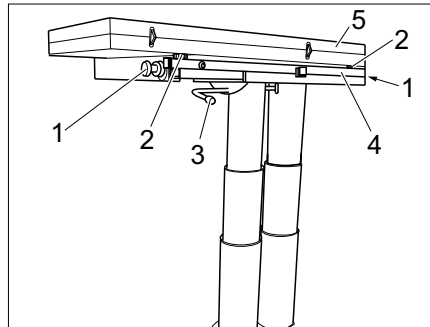

Fig. 117 Increasing the table size
- Loosen knurled screws (Fig. 117,1) on both sides.
- Swivel the catch lever (Fig. 117,3) to the left. The lift-off table is unlocked.
- Pull out the table base (Fig. 117,4).
- Fold out the table half (Fig. 117,5).
- Use the two adjusting screws (Fig. 117,2) to adjust the table-top to the desired height.
- Swivel the catch lever (Fig. 117,3) to the right. The lift-off table is locked.
- Release the locking lever (Fig. 117,3).
- Fold in the table half (Fig. 117,5).
- Screw the two adjusting screws (Fig. 117,2) in.
- Push in the table base (Fig. 117,4).
- Tighten knurled screws (Fig. 117,1) on both sides.
- Swivel the catch lever (Fig. 117,3) to the left. The lock is open.
- Screw the two adjusting screws (Fig. 117,2) in, if necessary.